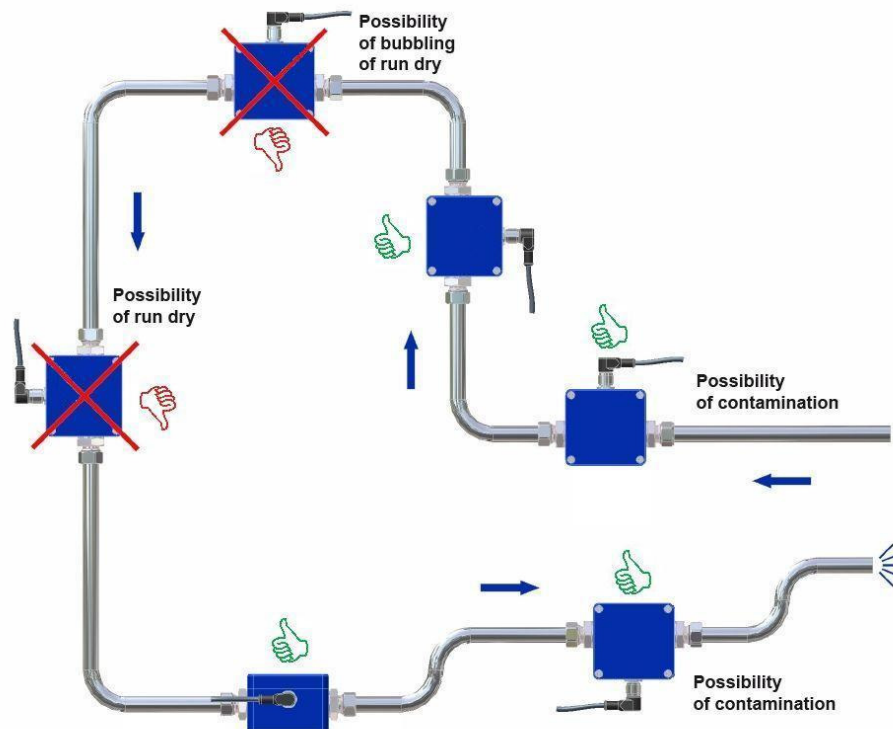

Fig. 3: Installation MAG-VIEW™
- The meter can be installed at any position in the pipe system. Straight pipe sections are recommended, since the flow velocity may vary in bends (see Fig. 3).
- As a matter of principle magnetic inductive flow meters are widely independent from the flow profile. An inlet section is not absolutely necessary. To reach a most highly accuracy of the measurement, you should use straight inlet and outlet sections according to the nominal width (DN). The inlet section has to be at least 10 x DN; the outlet section 5 x DN in order to achieve the specified accuracy.